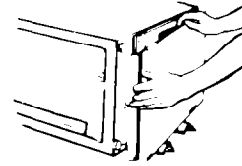

FIGURE 8
6. Lay two carton corner posts or other protective material (such as a throw rug) on the floor, then lay the unit on either of its sides on the corner posts. The corner posts will protect the finish of the compactor and the floor. See Figure 8. **NOTE: Do not truck or handle by console.**
Remove the cardboard shipping pad located on the bottom. See Figure 8. Stand compactor upright.